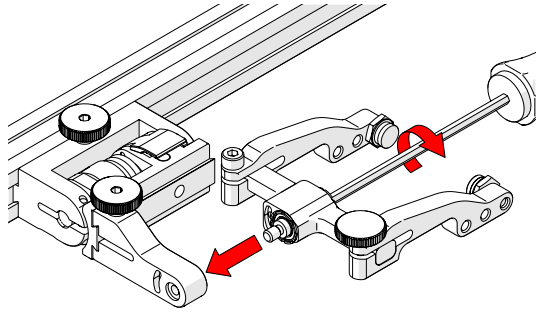

Fig. 188 - Install yoke to swing arm
6. Using the 3 mm hex driver, screw the yoke pivot screw into the opposite side of the probe holder swing arm (*Fig. 188*). Ensure the yoke is level to avoid issues with the plunger/set screw.